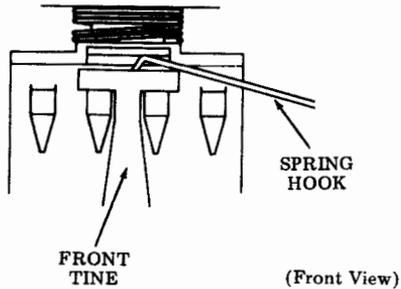

Fig. 12--Front Tine Disengagement
- (3) Continue applying upward pressure to the RETURN key and disengage the front tine from housing using a spring hook. Remove keytop with housing from channel (Fig. 12).